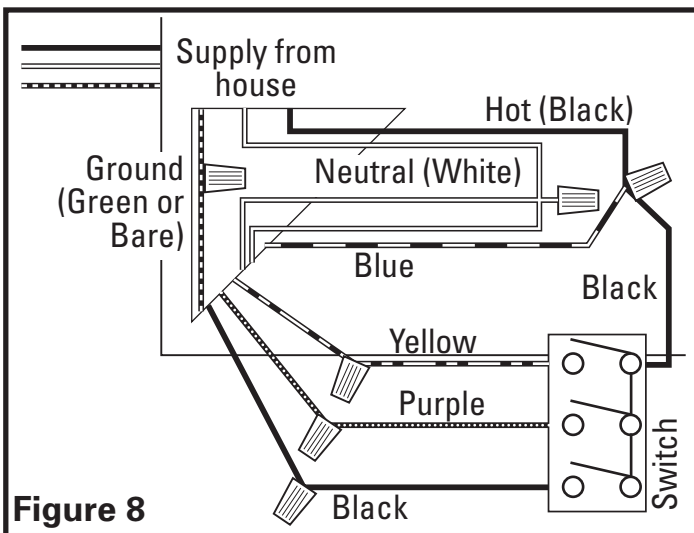

Figure 8
2. **Continuous Ventilation:** For two speed fans wired for continuous ventilation with the recommended AKS3 switch (not included). Properly ground the switch. Connect the Black (Hot) wire from the supply to both the Blue wire of the fan and a black wire run to the common terminal of the wall switch. Run 3 wires from the wall switch (not included) to the fan. Connect the Yellow wire from the fan to the top terminal of the AKS3 switch. This is the light control. Connect the Purple wire from the fan to the middle terminal of the AKS3 switch. This is the night light control. Connect the black wire from the fan to the bottom terminal of the AKS3 switch. This is the fan control and closing the switch will change from normal to high speed (**Figure 8**).